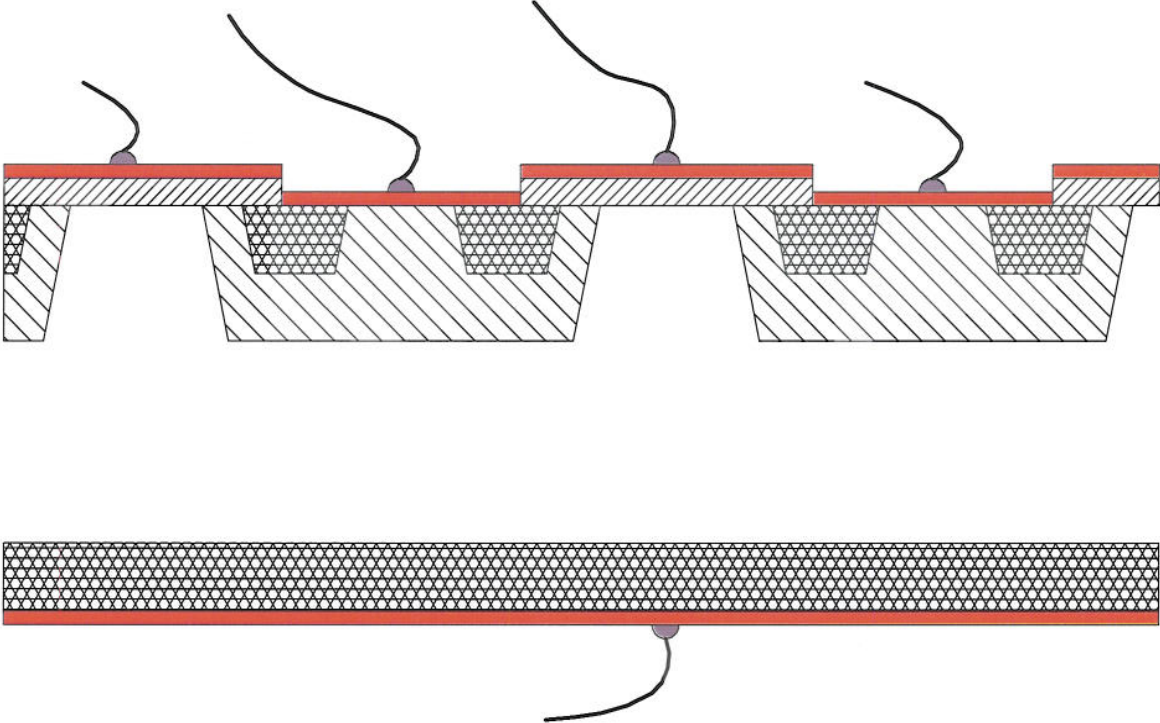

Figure Q3.1 Section through a double diffused MOSFET
- 3 (a) Figure Q3.1, available on a separate answer form, shows a section through a MOSFET. Mark on that diagram your answers to the following.